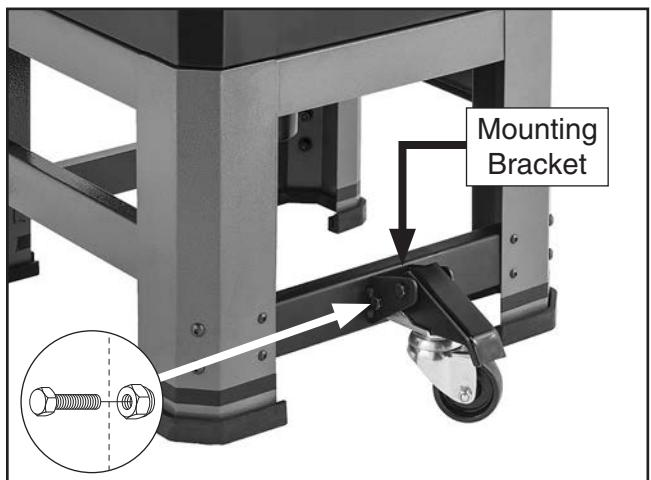

Figure 14. Caster installed on leg brace.
4. Install caster on leg brace mounting bracket with M8-1.25 x 65 hex bolt and M8-1.25 lock nut (see **Figure 14**).